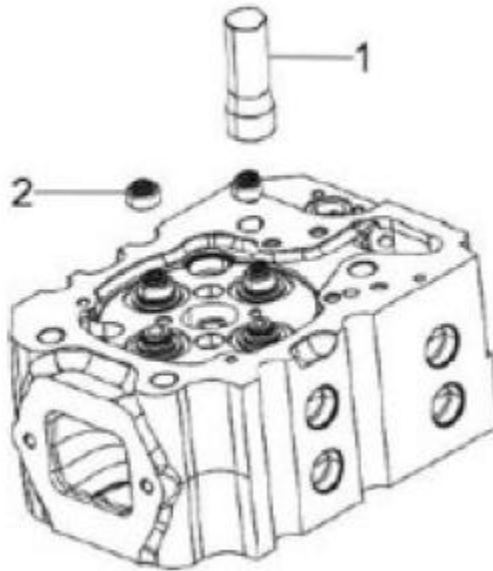

Figure 61. Valve Stem Seal Installation Tool
4. Place all the valves (Figure 61, Items 1 & 2) in their proper location in the cylinder head.